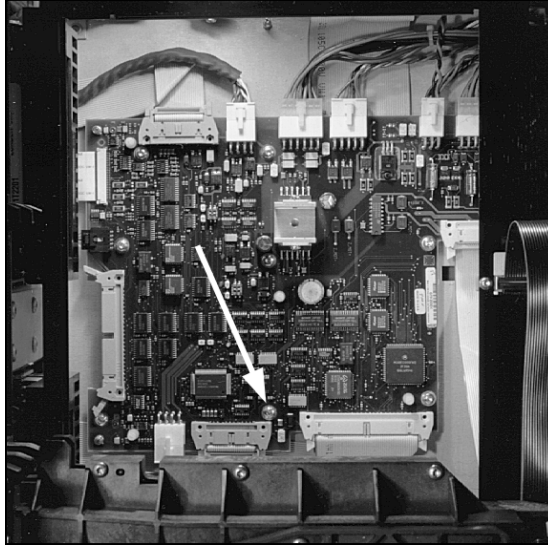

Figure 5-52. Controller PCA - Cover Off
9. Remove the nine T-15 screws (with cone washer) that mount the PCA to the chassis. (The nine screws are indicated by the single arrow in Figure 5-52.)